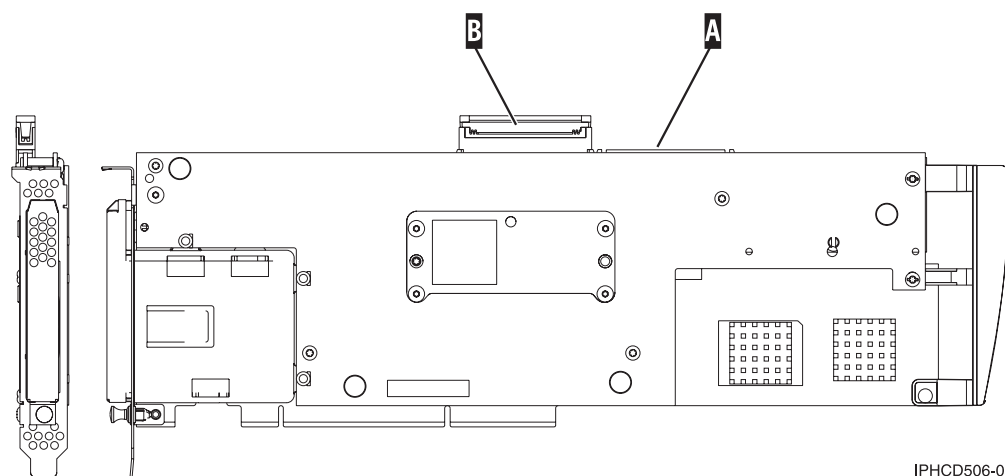

Figure 70. 5708, auxiliary-write cache IOA
2. Attach the cable to SCSI port A on the auxiliary-write cache adapter. See Figure 70 on page 239.